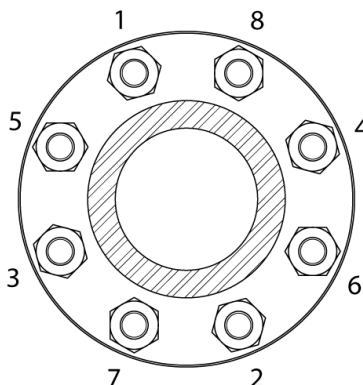

Figure 3-3. Bolt Tightening Sequence (8-Bolt Flanges)
2. On the inlet side only, tighten the bolts to 25% recommended torque following the sequence in Figure 3-3.
3. On the inlet side only, tighten the bolts to 75% recommended torque following the sequence in Figure 3-3.
4. On the inlet side only, tighten the bolts to 100% recommended torque following the sequence in Figure 3-3.